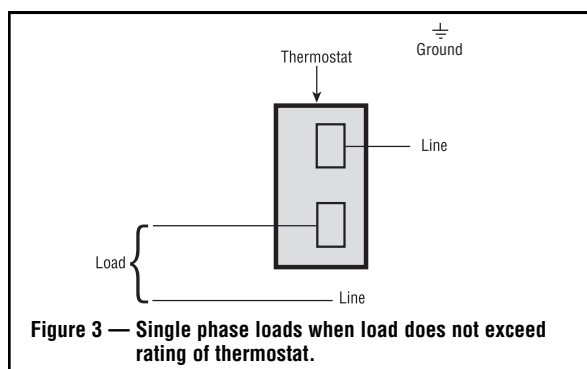

Figure 3 — Single phase loads when load does not exceed rating of thermostat.
4. Connect wires according to wiring diagrams (Figures 3 and 4).